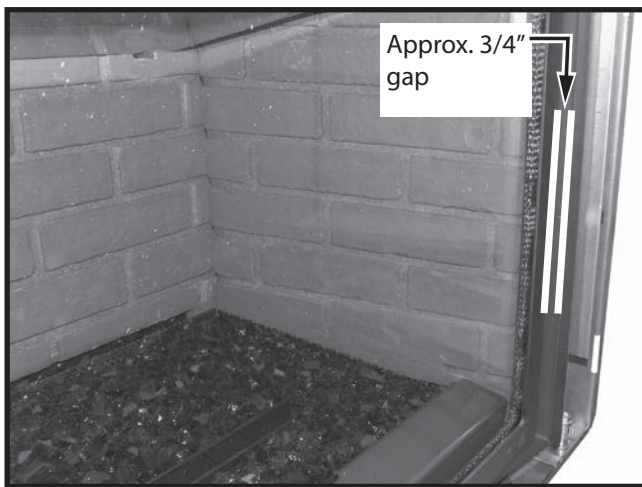

Figure 20: Door handles in closed position.
4. The handle will not close completely. There will be an approximately 3/4" gap between the handles and the door frame (Figure 20). This is normal.